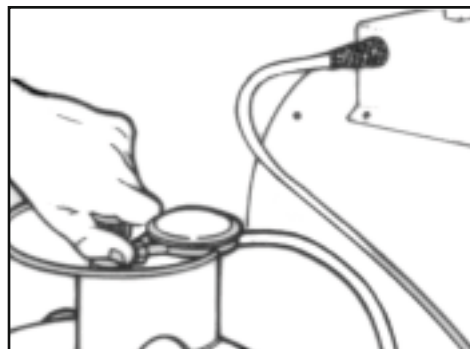

Fig.4
4. After igniting the flame, keep the gas button pressed for 15-20 seconds to activate thermal safety devices (see fig. 4)